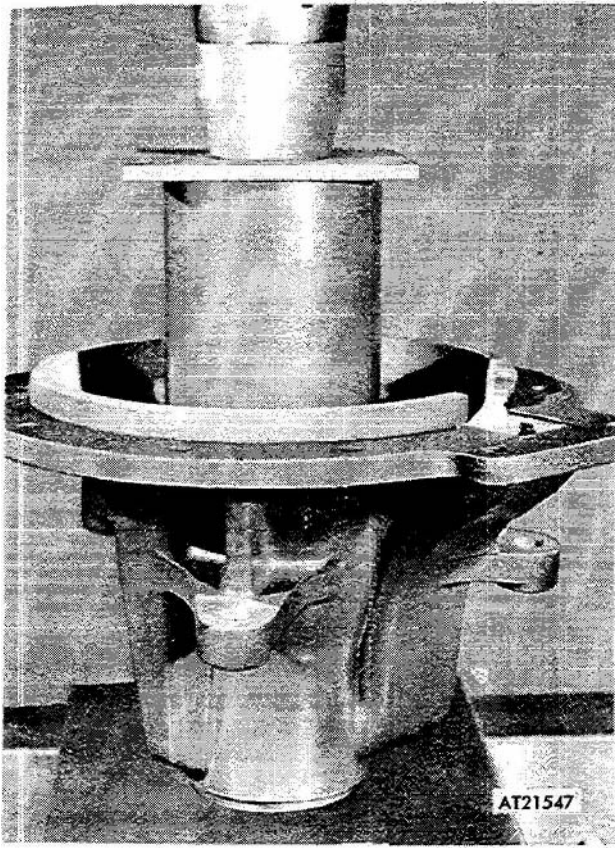

*Figure 3-172. Pressing bearing on rear differential pinion.*
(4) Press bearing (12, fig 3-166) on pinion (13) (fig 3-172).